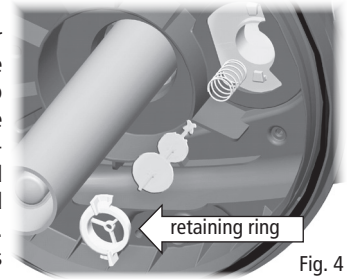
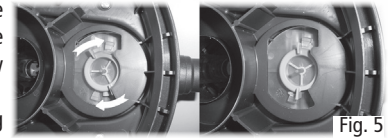

Fig. 4
Fig. 5
4. Slowly lift the Cleaning Handles (S) up to their maximum extension above the filter.
5. Remove the safety insert from the metallic lid clamp (O). Unlatch the metallic lid clamp.
6. Remove the Lid (G) by grasping the cleaning handles or by gently levering into the side slots by means of an adequate flatheaded screwdriver. **CAUTION:** do not force the guiding rods sideways as this may damage the unit.
7. You now have access to the Foam Filters (M). Remove all of them together by grasping and lifting the internal Foam Support Frame (N).
8. Free the Foam Filters (M) from the Foam Support Frame (N) and rinse with pond water or replace them as required.
9. Rinse the biological media located in the lower section of the Filter Case (Q) with pond water or replace as required. Pressure-Flo 1000/3000 UVC does not have a biological media chamber.
10. Clean the Filter Case (Q) with water, particularly around the top edge where the lid sealing O-ring (P) is seated.
11. If necessary clean the Cleaning Indicator (U) after disassembling it as follows (the Mode Selector Switch (V) must be set to the "Filtering Mode" position): 1) remove the retaining ring by rotating it counter-clockwise, 2) remove the indicator and its spring. Rinse all parts in water and reassemble them with care (Fig. 4 - Fig. 5).